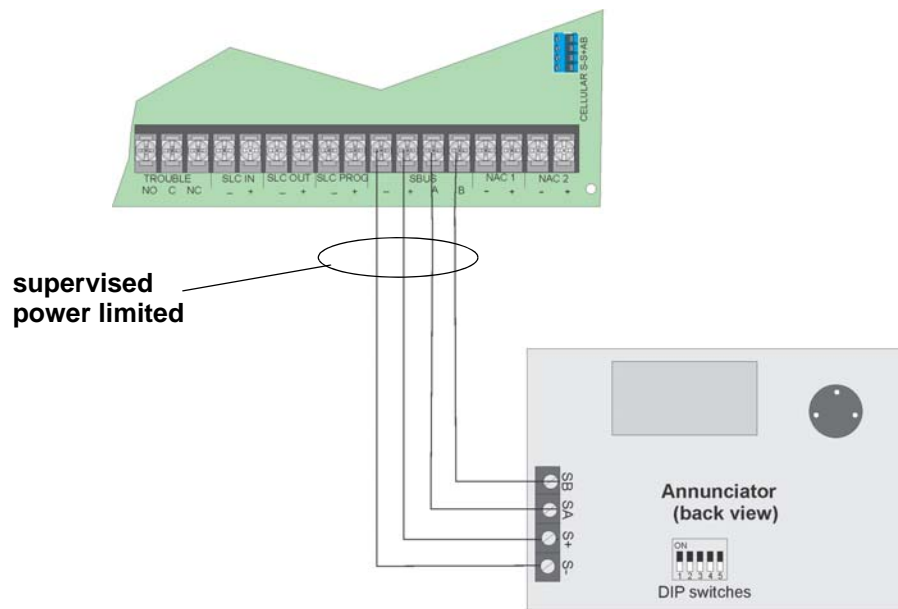

**Figure 4.18 Installing Trim Ring**
4. Place the trim ring over the back box as shown in Figure 4.18.